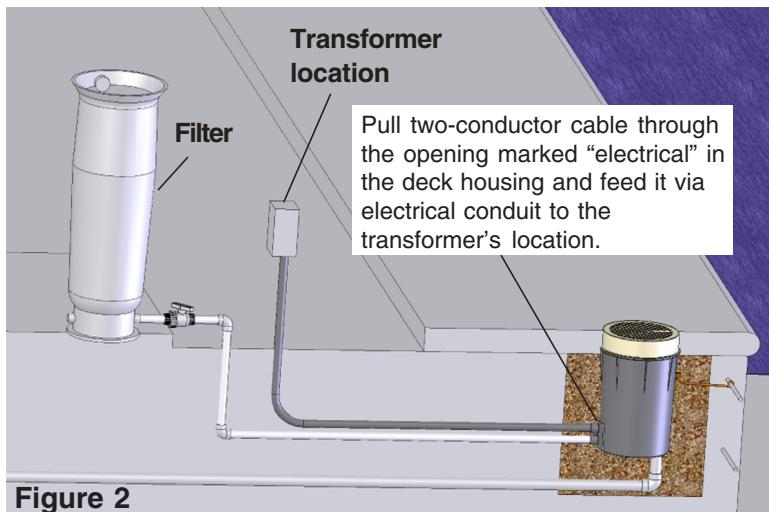

Figure 2
1. Pull the 16 gauge, 2-conductor cable through the opening marked "electrical" in the deck housing and route it, via electrical conduit, to the transformer location (Figure 2). Leave three (3) feet of slack at the deck housing end to allow for servicing.